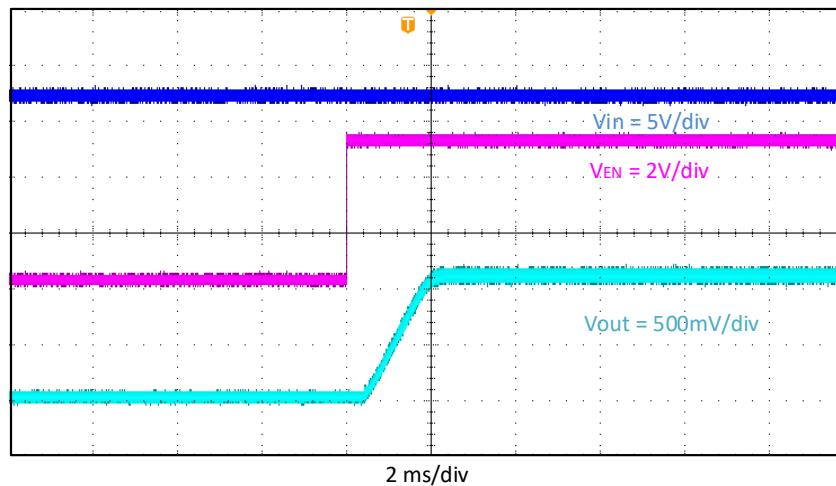

Figure 4-3. Start-Up Relative to EN, $I_{OUT} = 3 \text{ A}$
The TPS563207EVM start-up waveform relative to enable (EN) is shown in Figure 4-3.